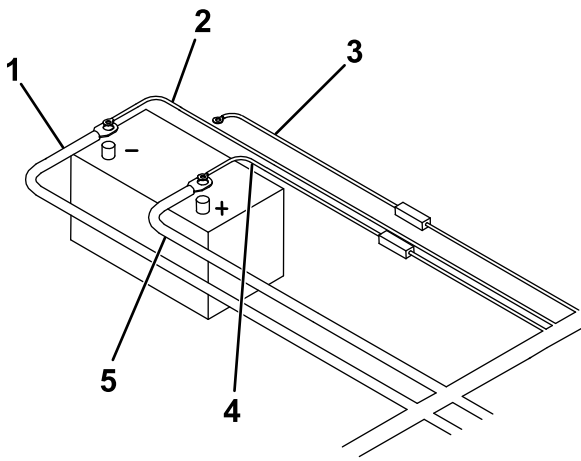

Figure 19
23. Connect the black power/ground cable to the negative (-) battery terminal (Figure 19).
- 24. Connect the brown wire to the negative (-) battery terminal (Figure 19).
- 25. Connect the free end of the battery cable to the positive (+) battery terminal (Figure 19).
- 26. Connect the red, fused wire and the red/white fused wire to the positive (+) battery terminal (Figure 19).